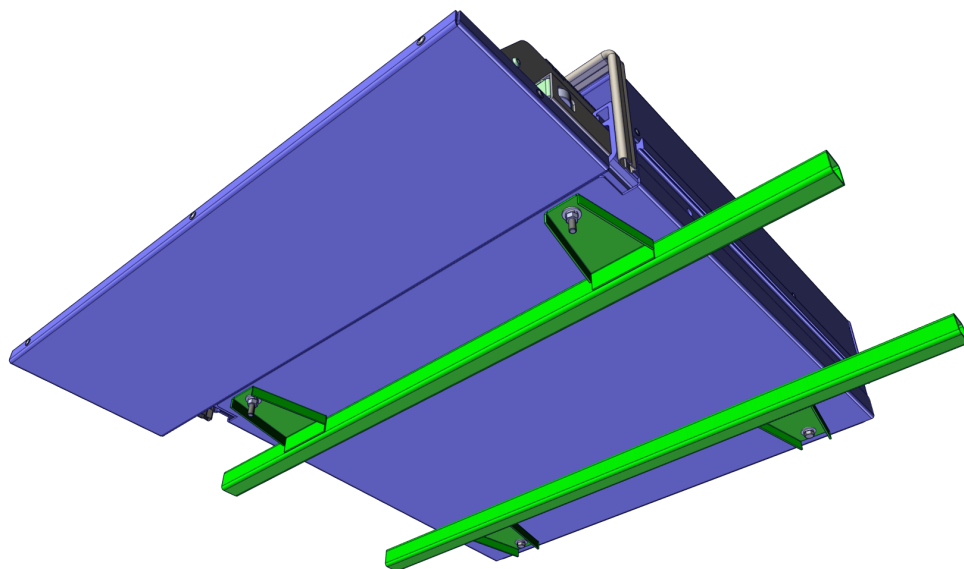

Figure 3-2 Valid Electric Step - structural mounting requirements
- Adequate support structure for mounting the Valid Electric Step (to be supplied by the vehicle manufacturer). Refer to Figure 3-1 below for mounting point dimensions and Figure 3-2 on the next page for an example mounting structure.